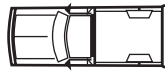

**Figure 6H-15. Work in the Center of a Road with Low Traffic Volumes (TA-15)**
**Notes for Figure 6H-15—Typical Application 15**
\*\* The column headings A, B, and C are the dimensions shown in Figures 6H-1 through 6H-46. The A dimension is the distance from the transition or point of restriction to the first sign. The B dimension is the distance between the first and second signs. The C dimension is the distance between the second and third signs. (The "first sign" is the sign in a three-sign series that is closest to the TTC zone. The "third sign" is the sign that is furthest upstream from the TTC zone.)